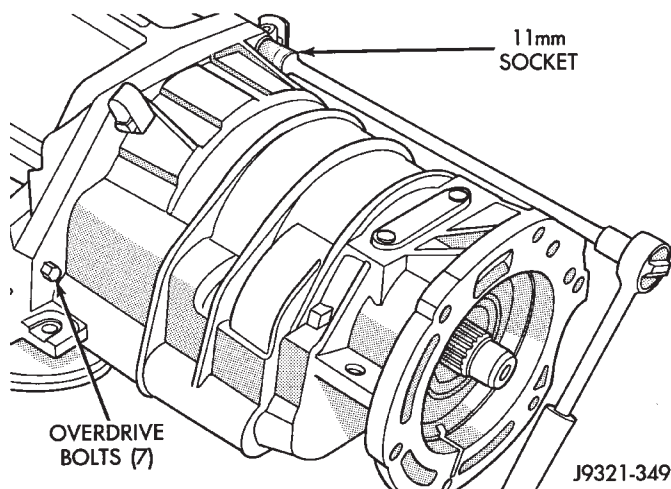

Fig. 2 Removing/Installing Overdrive Unit Attaching Bolts
(5) Place transmission in upright position (Fig. 2).
(6) Remove bolts attaching overdrive unit to transmission case (Fig. 2). An 11 mm socket is required. Note position of all wiring clips for installation reference.